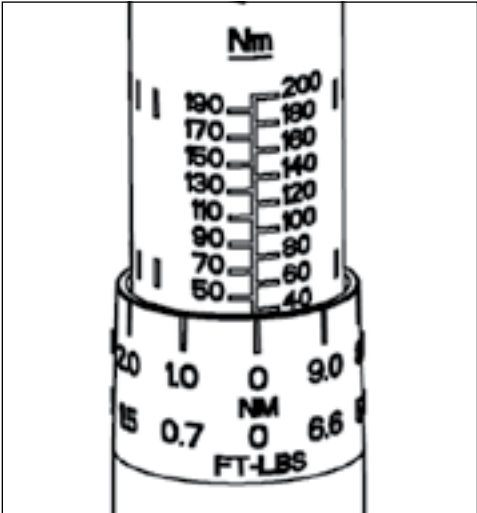

Fig. 2 – Setting example 40Nm
1. To unlock handle, pull the locking ring (5) down and turn the handle (6).
2. Set the required torque by turning the handle until the selected torque on the primary scale aligned with the '0' on the secondary scale collar (4). Then continue to turn the handle make minor adjustment on the secondary scale (Fig. 2).